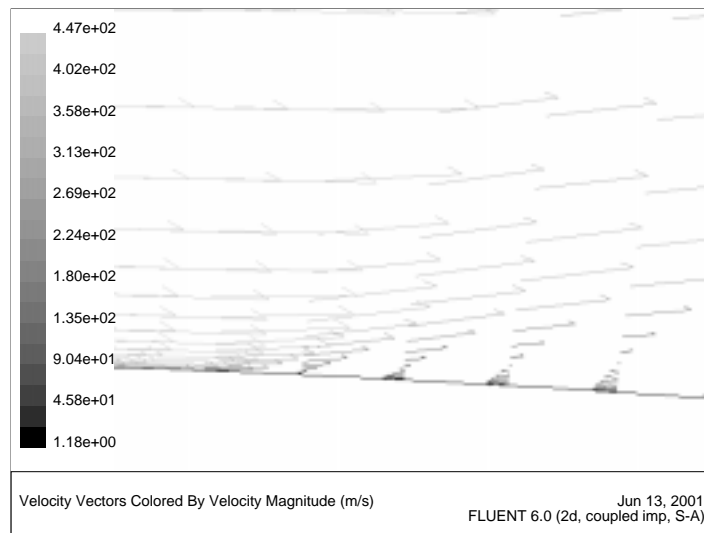

Figure 3.17: Plot of Velocity Vectors Near Upper Wall, Behind Shock
6. Plot velocity vectors (Figure 3.17).
*Zooming in on the upper surface, behind the shock, will produce a display similar to Figure 3.17. Flow reversal is clearly visible.*